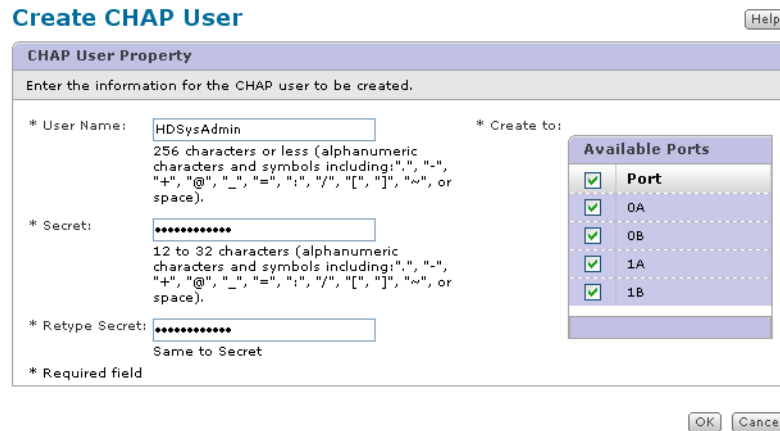

Figure 8-43: Create CHAP User Window
2. Click **Create CHAP User**. The Create CHAP User window appears as shown in Figure 8-43 on page 8-46.